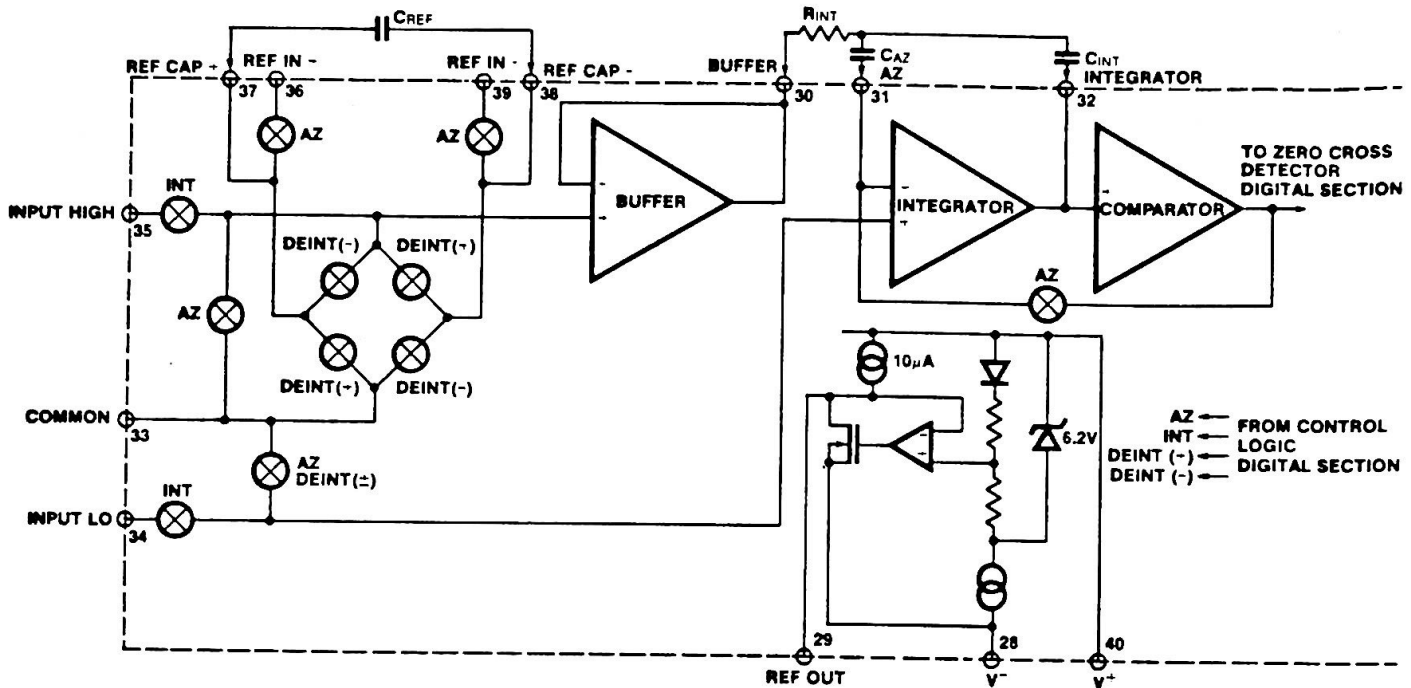
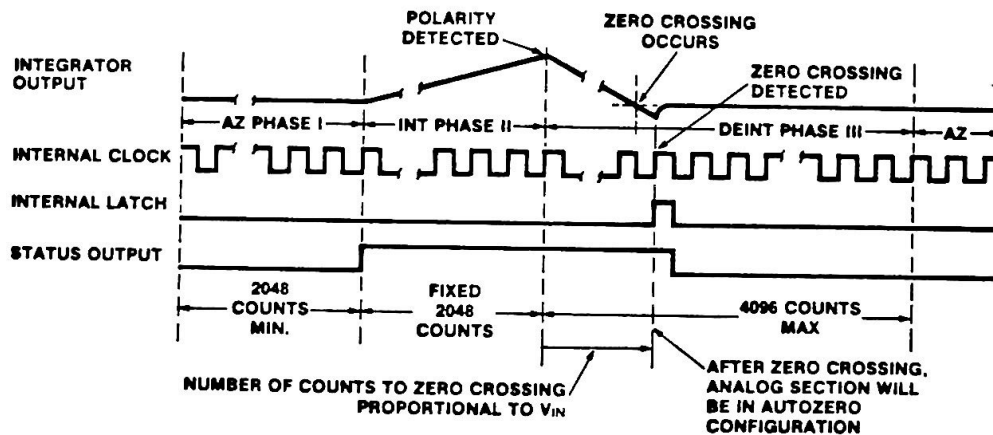

Figure 2: Analog Section
Figure 3: Conversion Timing (RUN/HOLD Pin High)
Figure 2 shows the equivalent circuit of the Analog Section of the ICL7109. When the RUN/HOLD input is left open or connected to V⁺, the circuit will perform conversions at a rate determined by the clock frequency (8192 clock periods per cycle). Each measurement cycle is divided into three phases as shown in Figure 3. They are (1) Auto-Zero (AZ), (2) Signal Integrate (INT) and (3) Deintegrate (DE).